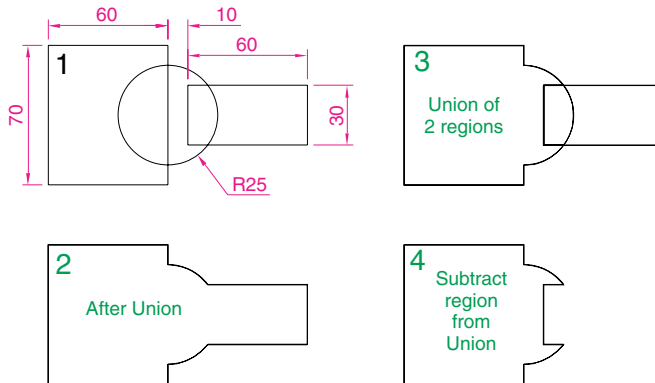

Fig. 13.9 Second example – Union, Subtract and regions
Second example – Union, Subtract and regions (Fig. 13.9)
1. In the **Top** view, construct drawing **1** of Fig. 13.9 and with the **Copy** tool (**2D Draw** control panel), copy the drawing three times to produce drawings **2, 3** and **4**.